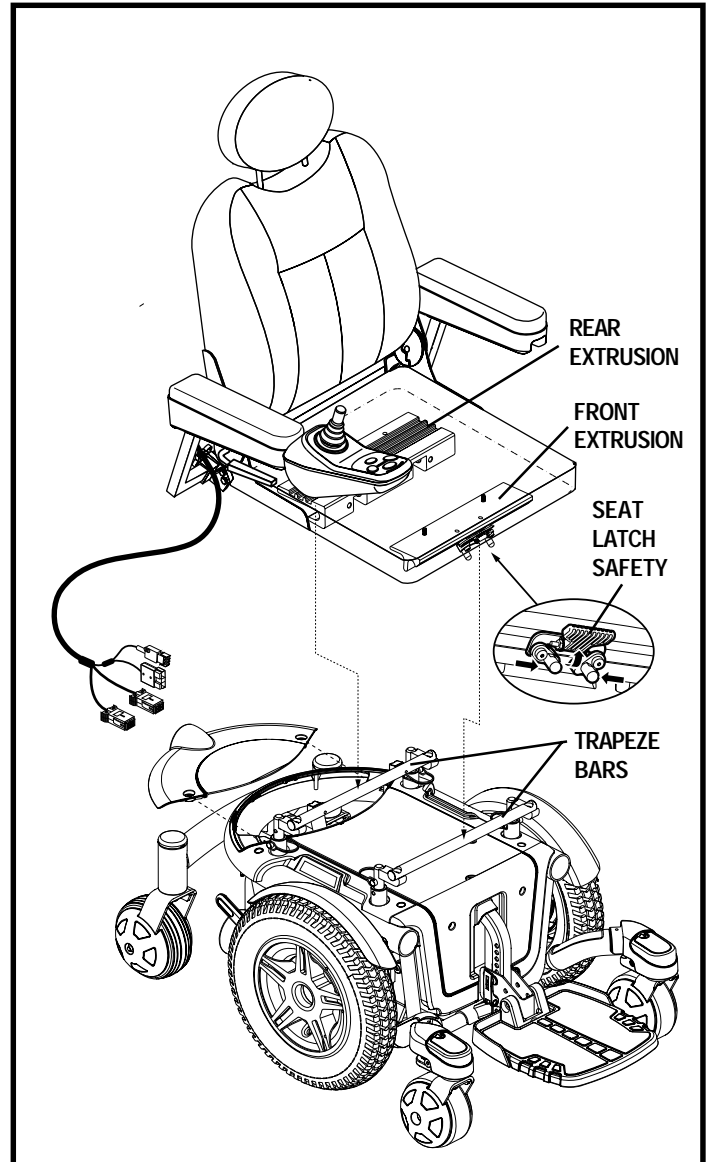

Figure 11. Universal Mounting System
It may be necessary to install the seat either prior to initial operation or after transporting your power chair. If your power chair is equipped with a Synergy Seat or a TRU-Balance Power Positioning System, refer to the information provided in separate manuals. Power chair seats are attached to the power base with the Universal Mounting System (UMS). The UMS consists of universal parts that may be attached to the seat, regardless of seat width or seat depth. The two main components are aluminum extrusions mounted to the seat base. These extrusions attach to a pair of trapeze bars that are mounted to the power base. See figure 11.
1. Tilt the seat back and slide the rear extrusion onto the rear trapeze bar. See figure 11.